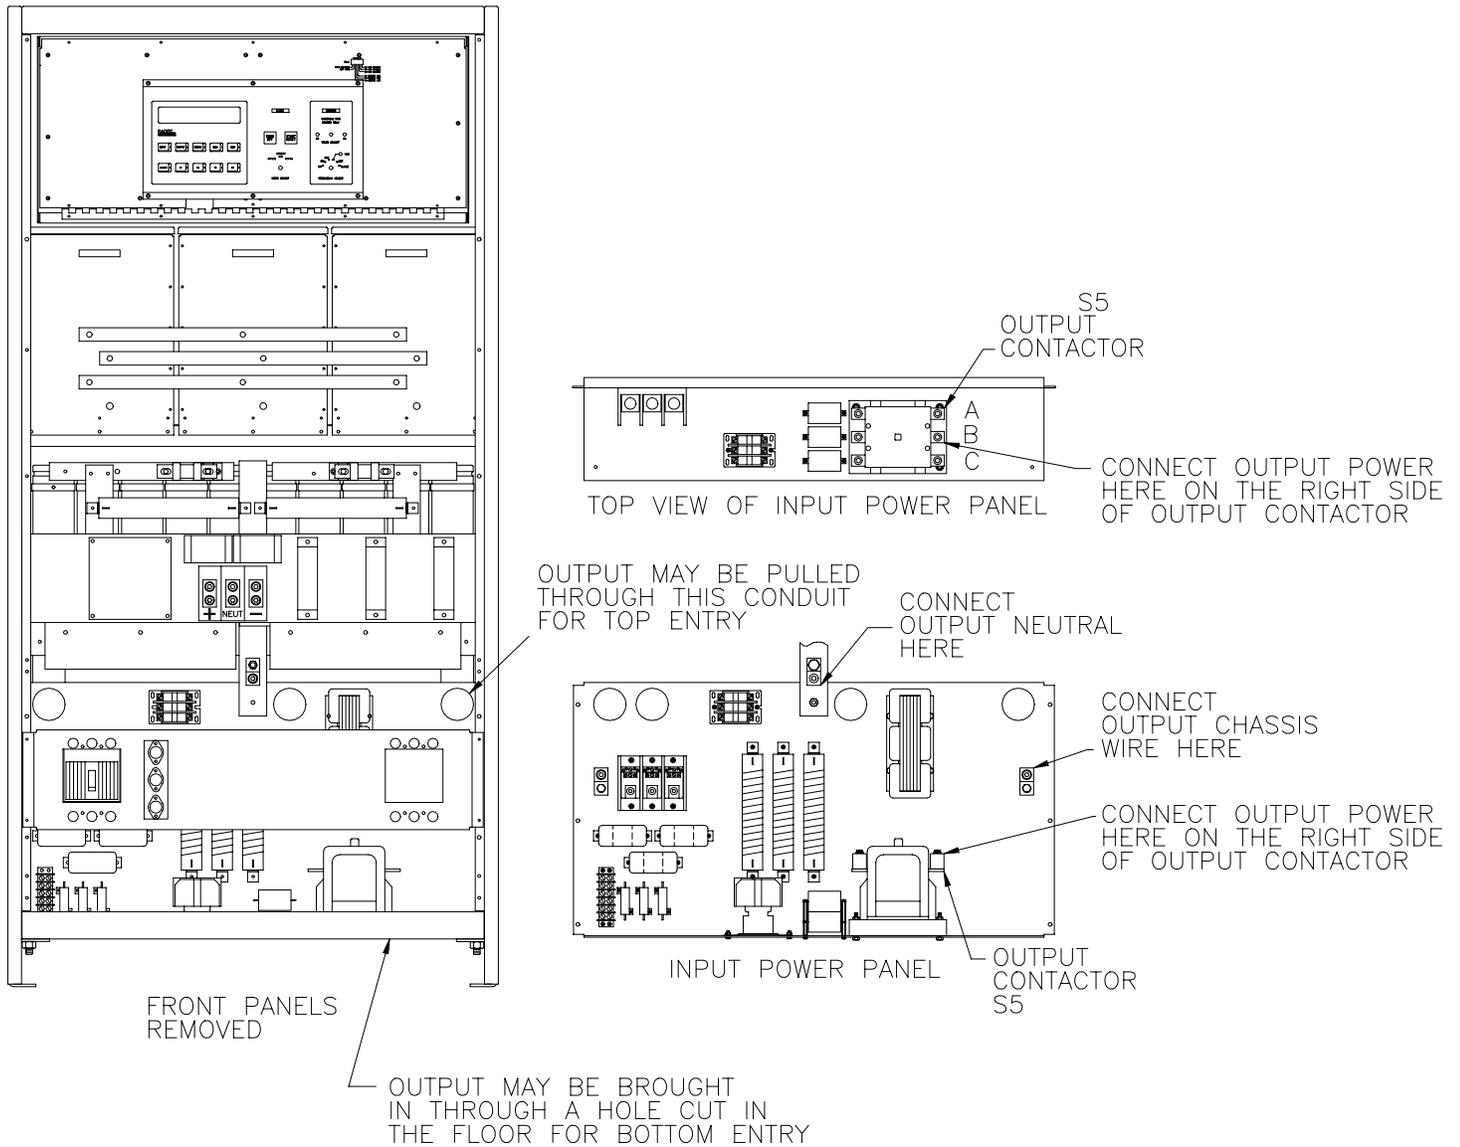

FIGURE 3.6 OUTPUT TERMINAL DETAIL
- 2 REFER TO FIGURE 3.6.
Output connections from the 3060-UMS AC Power Source are made at the output contactor labeled "OUTPUT POWER". Refer to figure 3.6 for location and orientation of terminals.